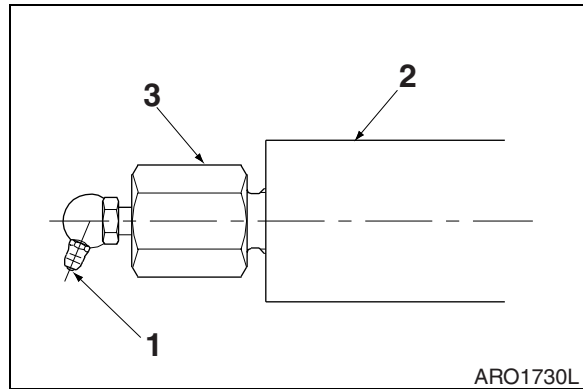

Figure 98
- Track tension adjustments are made through the grease fitting (1, Figure 98) in the middle of each side-frame. Adding grease increases the length of an adjustment cylinder (2). The longer the adjustment cylinder, the greater the pressure on the tension spring pushing the track idler wheel outward.
- If there is not enough slack or clearance in the tracks and the adjustment is too tight, the idler wheel and adjusting cylinder can be retracted by bleeding off grease through hole in adjustment cylinder (2, Figure 98) by loosening valve slowly (3, Figure 98).
Do not loosen or remove the grease fitting (1, Figure 98) until the pressure is entirely bleed off by loosening valve (3, Figure 98) slowly.